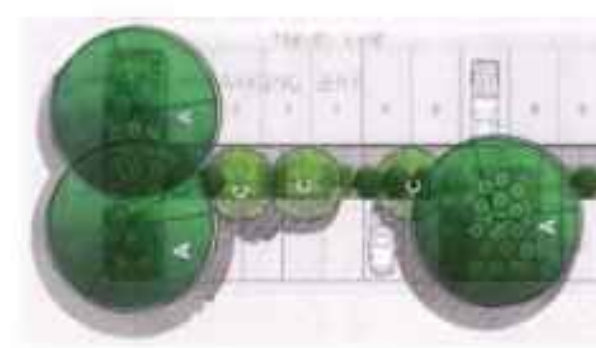

Figure 18.13.060-1 Example of Parking Lot Planter Areas.
H. No more than fifteen parking spaces shall be located in a row without a landscaped divider strip (See Figure 18.13.060-1).